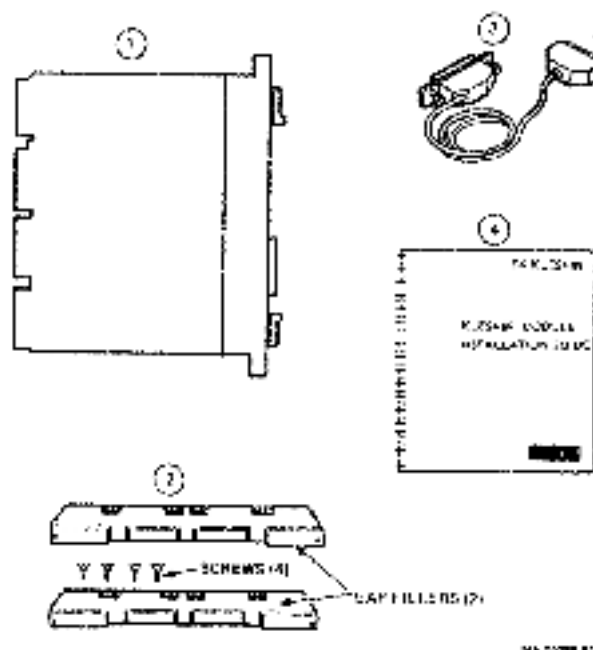

Figure 2-1 KLESI-SF Option Kit Contents
4. Use Table 2-1 to identify the contents of the KLESI-SF option kit. The checklist numbers correspond to the numbered items in Figure 2-1.